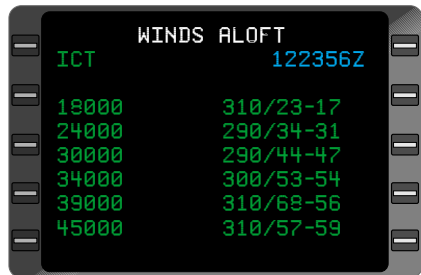

Figure 7-61
9. If there are identifiers, upon depressing the **ENTER** Key, the **WINDS ALOFT** Data Pages pertaining to the selected identifier appear. (Figure 7-61)